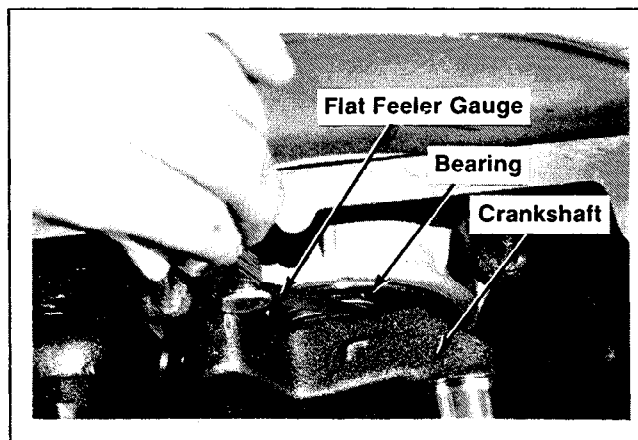

Figure 12-32. Measuring Crankshaft End Play.
5. Check crankshaft end play between the inner bearing race and shoulder of crankshaft using a flat feeler gauge. Refer to Figure 12-32. Recommended total end play is: